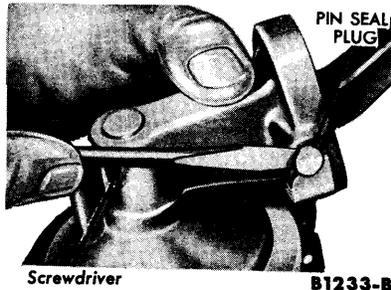

FIG. 1—Rocker Arm Pin Seal Plug Removal
5. Scrape away the staking mark and remove the rocker arm pin seal plug as shown in Fig. 1.